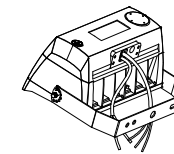

Figure 6
- STEP 2: Install two small screws (FIGURE 6)